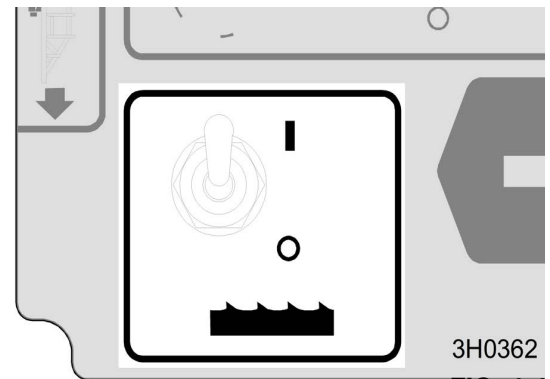

FIG. 4-4
1. Push up the toggle switch on the control panel up. See FIG. 4-4.